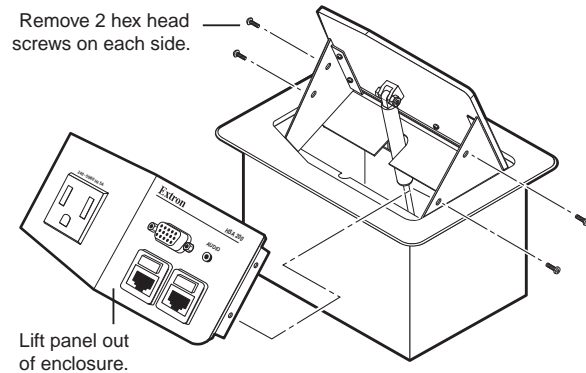

Figure 3-3 — Removing the front panel
4. Remove the four 1/16" hex head screws on the right and left sides of the front panel (figure 3-3). Retain the screws. Lift the panel away from the enclosure.
NOTE Figure 3-3 shows an HSA 200 model. Removing the front panel from an HSA 222 is an identical procedure.